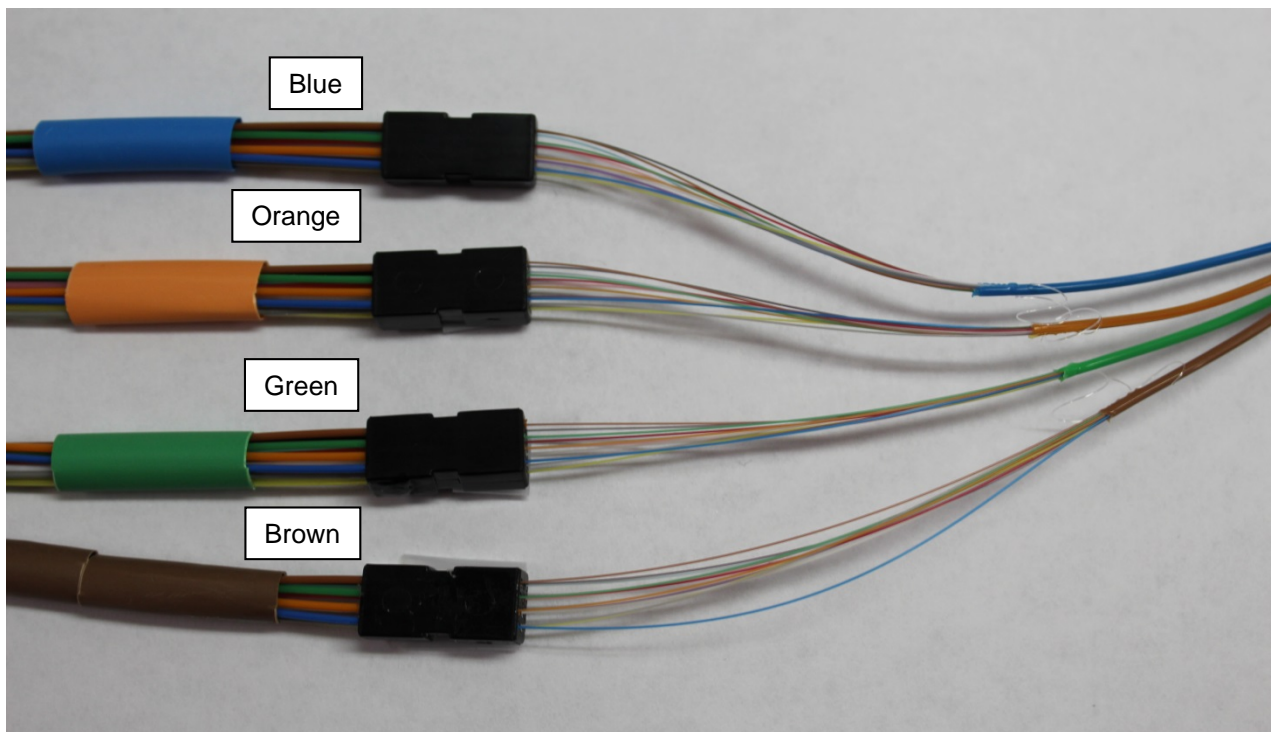

Figure 2
5.5 Separate and organize fiber bundle strands and assemblies. At the point where the strands exit nylon sub-unit, carefully arrange them so they are not crossed and carefully separate them along their entire length. **See Fig. 2.**
6.1 FT48FBK Field Termination Kit consists of a Base Unit, Cover Unit, Four (4) Breakout Unit Assemblies, 8 colored shrink tubing pieces and a 3.6 mm bushing. **See Fig. 2 & 3.**
7.1 Prepare the Blue, Orange, Green and Brown sub units and Breakout Assemblies first as in Figure 2.